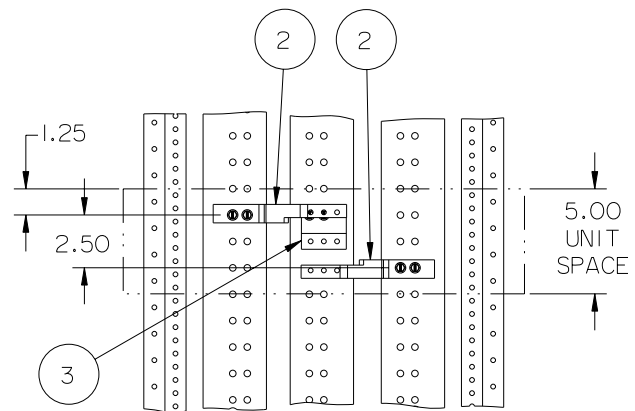
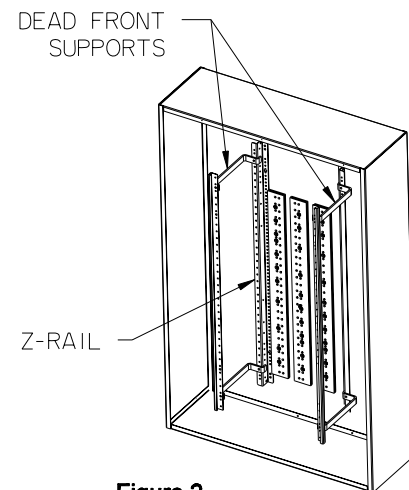

Figure 4
Figure 2
5. Reference fig. 4 - The first items to be installed are the line straps (items 2 and 3). Locate two 0.228" diameter holes on the B  $\phi$  of the section bus, 1-1/4" down from the top of the 5.0" unit space selected. Insert two 1/4-20 thread forming screws (see the mounting hardware kit for the proper length) through the two holes in the B strap (item 3) and then into the 0.228" diameter holes on the B  $\phi$  bus and tighten. Repeat this step to install the A  $\phi$  strap (item 2) onto the A  $\phi$  bus. To install the C  $\phi$  strap (item 2), locate two 0.228" diameter holes on the C  $\phi$  bus 2.50" below the mounting screws of the A  $\phi$  and B  $\phi$  straps. Insert two more of the 1/4-20 thread forming screws through the two holes in the strap and then into the 0.228" diameter holes in the C  $\phi$  section bus. Torque all screws to the values specified on the rear of the dead front.
- Reference fig. 2 - To mount a QJ Breaker, 5" of empty unit space is required. To locate the mounting position, measure from the top dead front support to the top of the empty unit space filler on the dead front. Transfer this dimension from the dead front support along the Z-rail and mark. This will be the unit space as shown on fig. 4. After marking the Z-rail, remove the dead front.